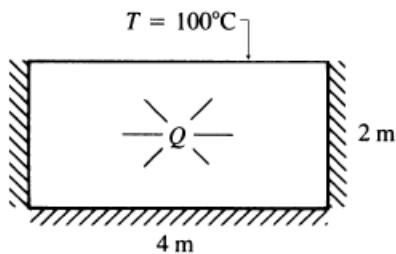

Figure P7.13
13. For the two-dimensional body shown in **Figure P7.13**, determine the temperature distribution. The temperature of the top side of the body is maintained at 100°C . The body is insulated on the other edges. A uniform heat source of $Q = 1000 \text{ W/m}^3$ acts over the whole plate. Assume a constant thickness of 1 m. Let $k = 25 \text{ W/(m }^{\circ}\text{C)}$.